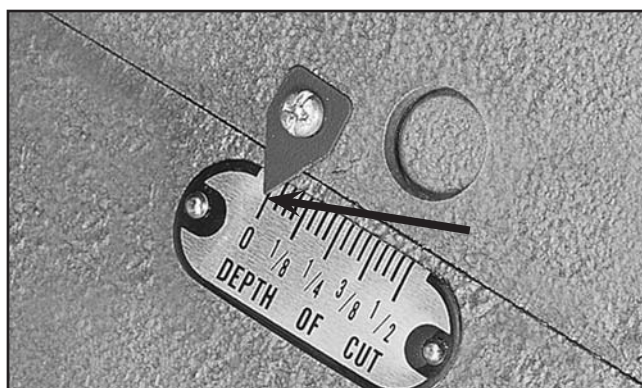

Figure 47. Depth-of-cut pointer adjusted to "0" position.
4. Using a screwdriver, adjust the scale pointer exactly to "0" (**Figure 47**).